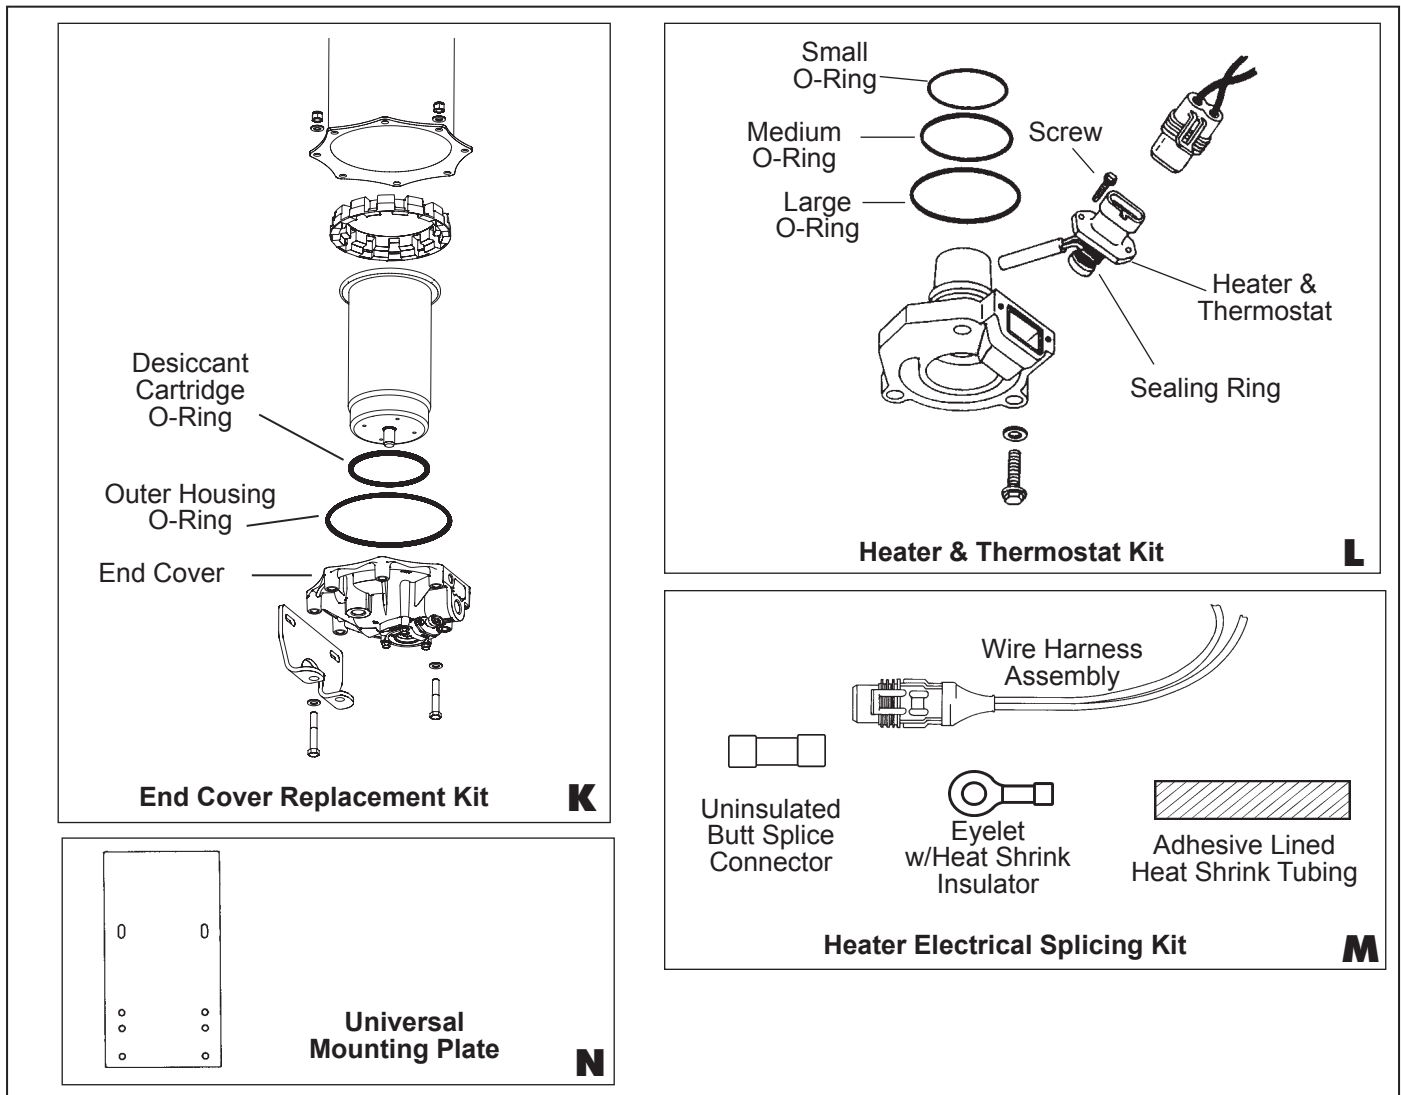

Figure 9 – Maintenance Kit Contents (Illustrations K Through N)
1. Remove the two screws that secure the heater and thermostat assembly to the purge valve assembly. See Figure 9, illustration L for kit contents.
1. Remove the remaining six 3/8" cap screws, locknuts and twelve special washers that secure the end cover to the air dryer housing. Separate the end cover and desiccant cartridge from the housing. See Figure 9, illustration K.